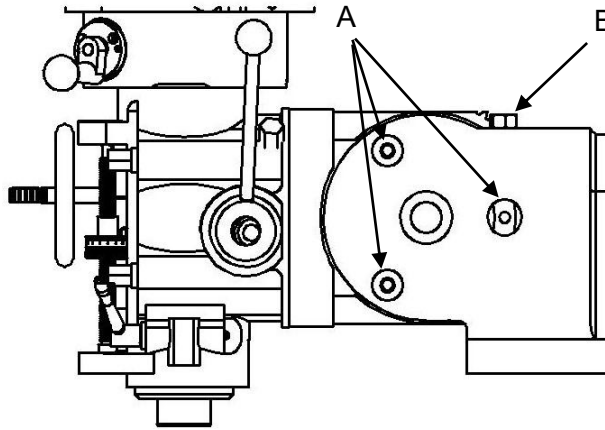

Figure 13
- a. Loosen the three ram adapter clamp bolts on the ram (A, Figure 13). There is no need to loosen the bolts more than 1/2 turn to allow tilting.
- c. Turn the ram adapter worm nut (B, Figure 13) to tilt the head tilt up and tilt down. Use the scale on the ram adapter to locate the desired angle.